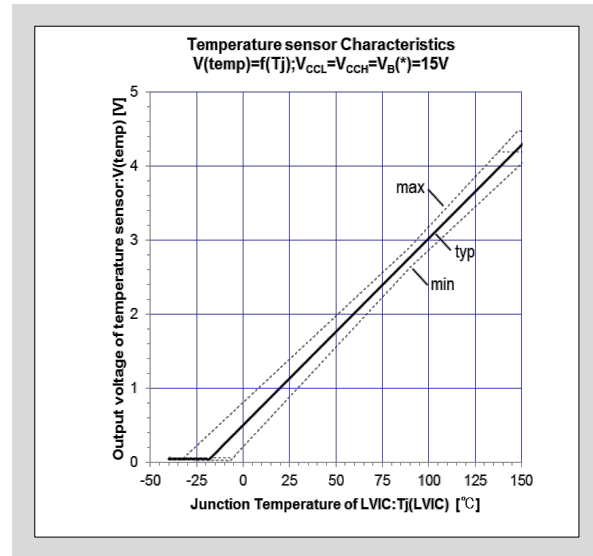

Fig.3-25 LVIC temperature vs. TEMP output voltage characteristics with 22kΩ pull-down resistor
- Fig. 3-25 shows the LVIC temperature versus TEMP output voltage characteristics with 22k Ω pull-down resistor $R_{pull\ down}$.